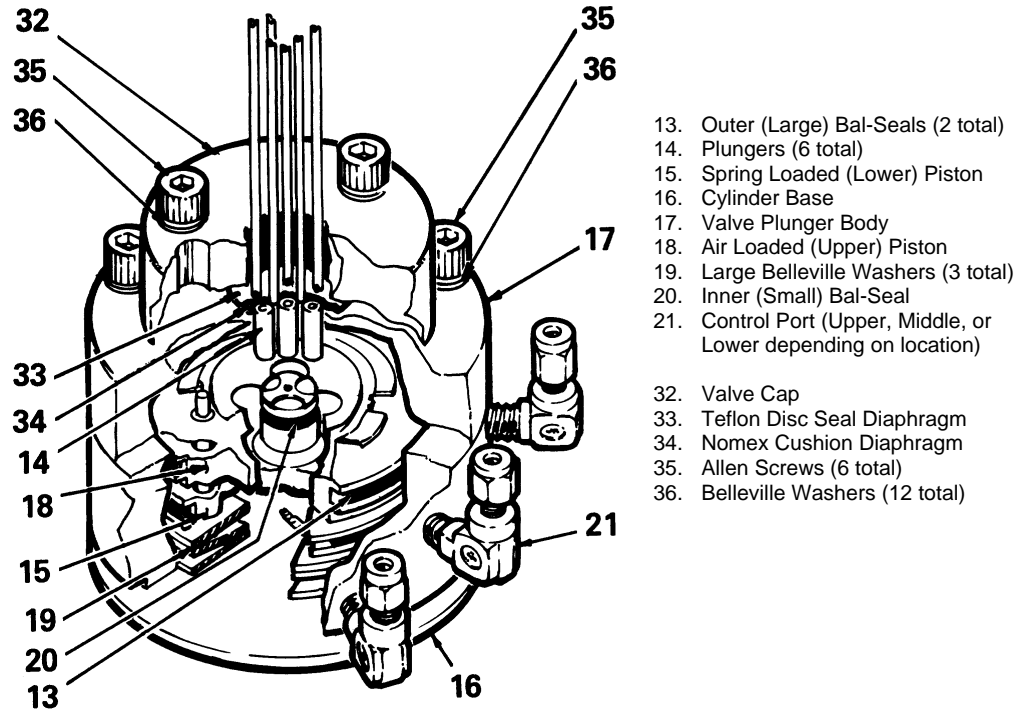

Figure 4-30: Model 20 High Temperature Valve (HTV) Components
Within the procedures, the numbers in parenthesis denote parts referenced in the list contained in figure 4-30 above; refer back to the list for locations.
**Maxi-Maintenance:** These are procedures, which may be performed if the valve fault cannot be corrected using Mini-Maintenance procedures. The valve can either be replaced or the following procedures can be performed. This includes completely disassembling, cleaning, and rebuilding of the entire valve. Refer to Figure 4-30. Procedures include the following: